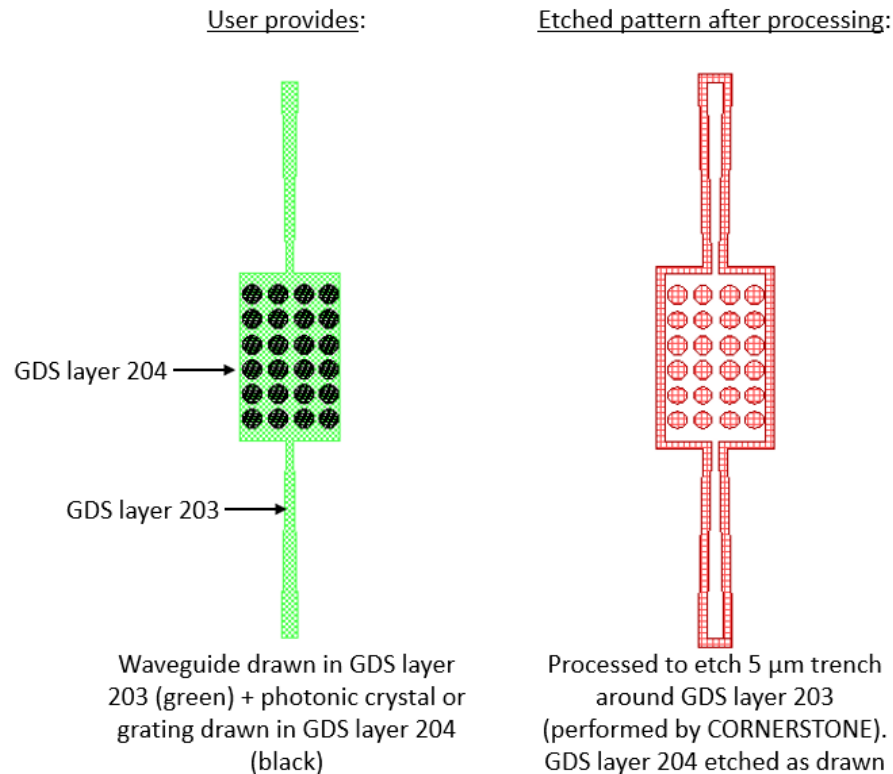

Figure 2 – Example photonic crystal structure using GDS Layers 203 & 204.
- Silicon Nitride Etch 1: 300 nm full etch to BOX – GDS Layer 204 (Dark field): Drawn objects on this layer will be exposed to the silicon nitride full etch to the BOX. An example photonic crystal structure is shown in Figure 2. The important thing to note here is that the waveguide layer drawn in GDS layer 203 should overlap the structures drawn in GDS layer 204, so that when the 5 µm trenches are generated by CORNERSTONE, a continuous waveguide remains. Note that the client should contact CORNERSTONE team if the design has photonic crystal structures with a diameter smaller than 600 nm to decide on whether structures need to be biased.